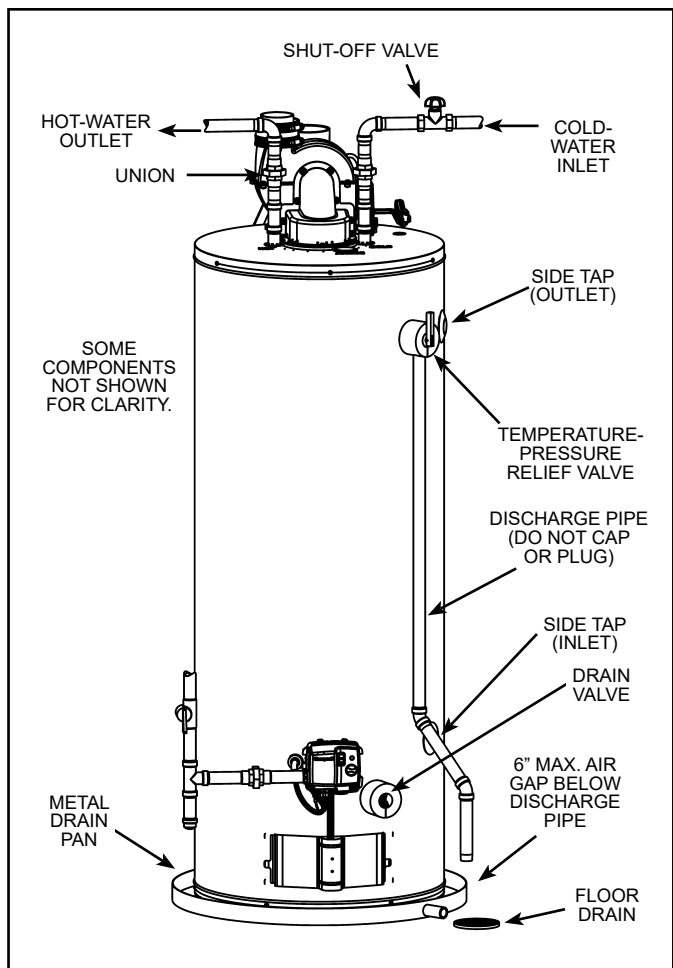

Figure 18.
1. Close the water heater drain valve by turning handle to the right (clockwise). The drain valve is on the lower front of water heater (see Figure 18).